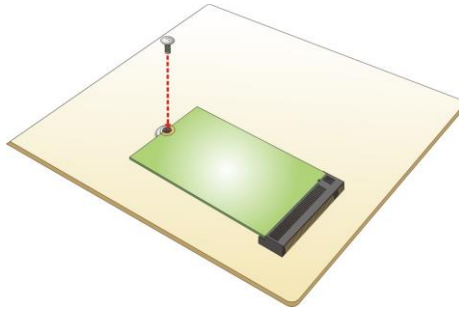

Figure 3-7: Securing the WLAN Module
Step4. Secure the WLAN module with the retention screw previously removed (Figure 3-7).